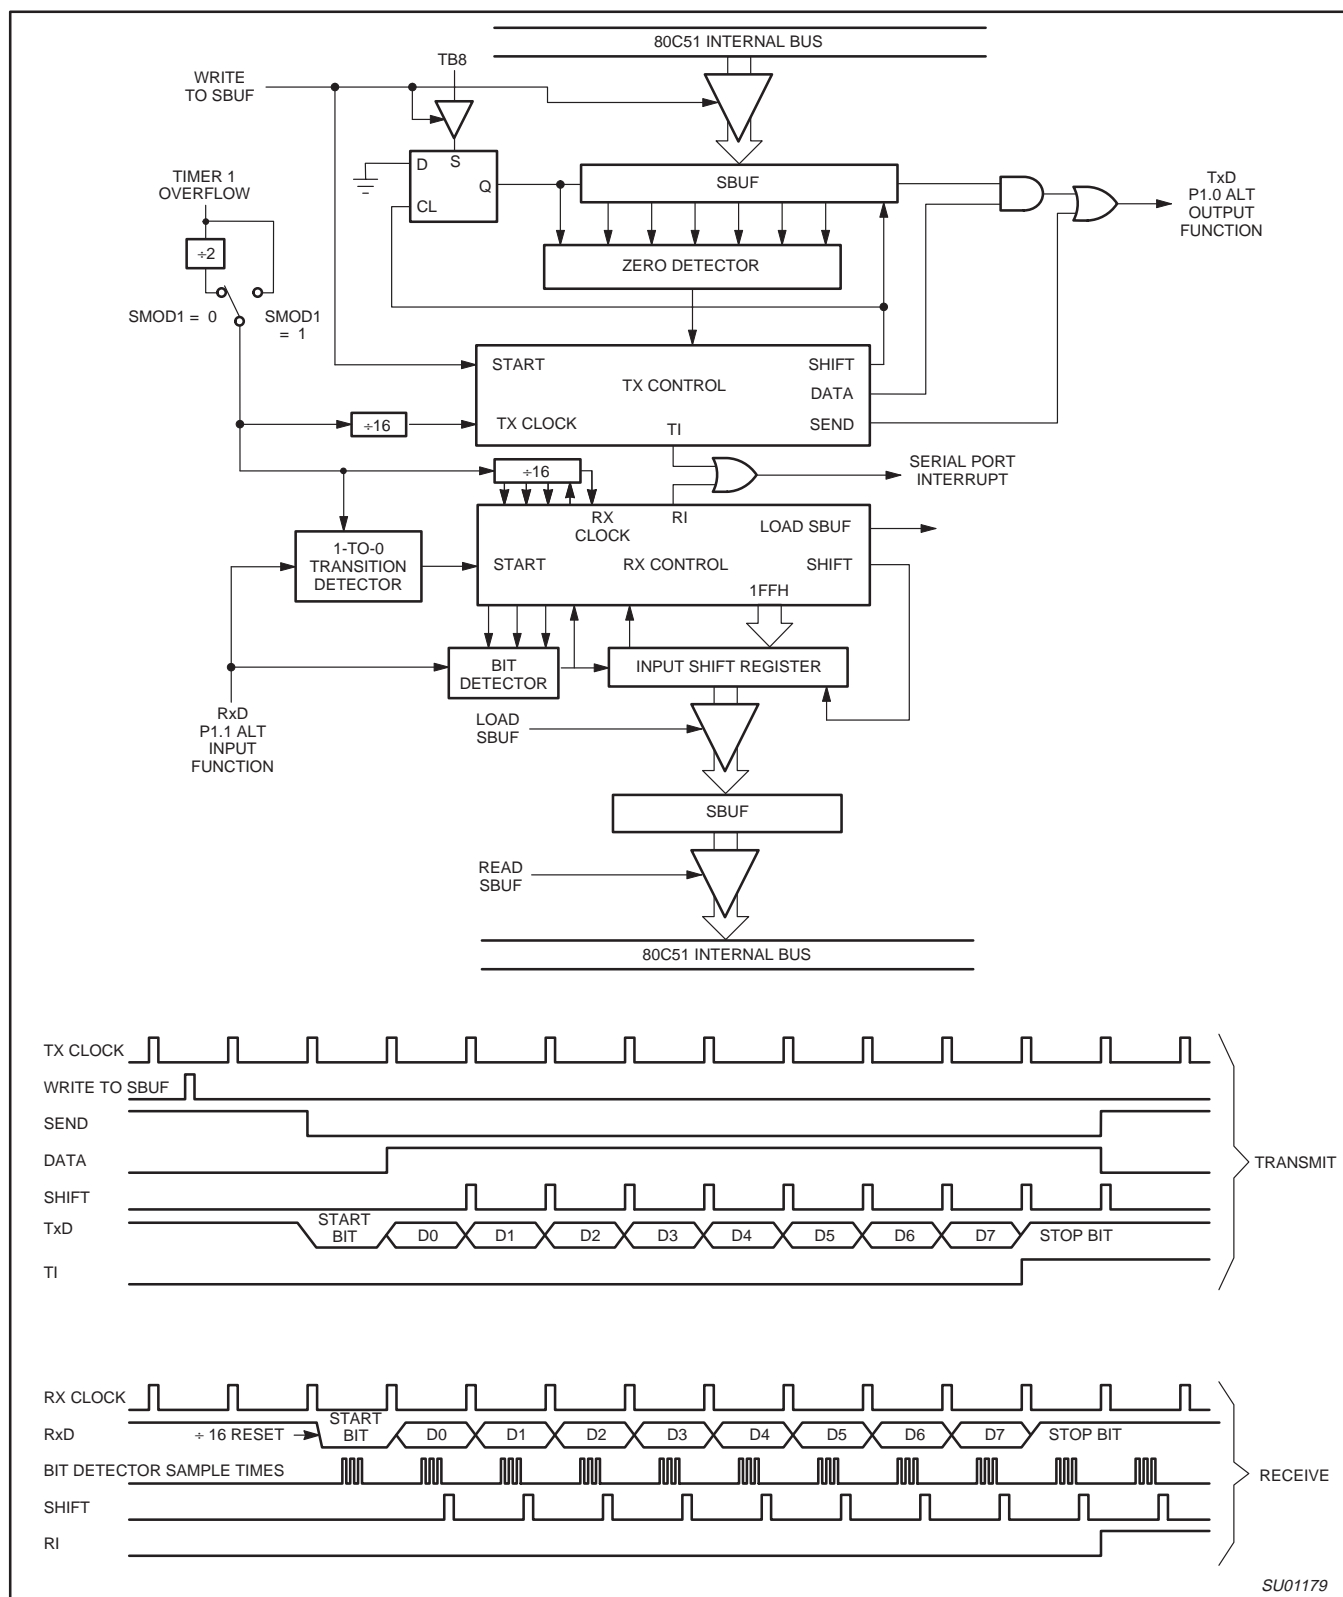

Figure 32. Serial Port Mode 1
Ten bits are transmitted (through TxD), or received (through RxD): a start bit (0), 8 data bits (LSB first), and a stop bit (1). On receive, the stop bit goes into RB8 in SCON. In the P87LPC767 the baud rate is determined by the Timer 1 overflow rate. Figure 32 shows a simplified functional diagram of the serial port in Mode 1, and associated timings for transmit receive.